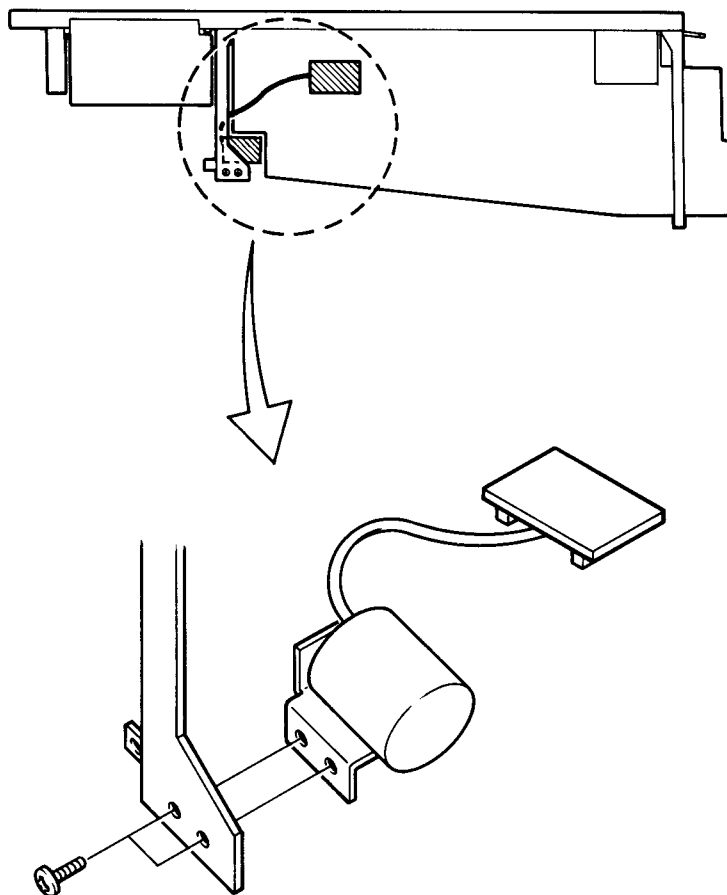

FIGURE 6-6. OPTIONAL INPUT TRANSFORMER INSTALLATION. (IT1800A)
The PM1800A standard input module is equipped with a balanced, differential input preamplifier for the XLR connector. That preamp, along with some circuitry for the resistive attenuation pads, is located on a small printed circuit board that “piggy back” mounts to the module’s main circuit board. Refer to Figure 6-6.
6. Install the transformer by securing its bracket to the lower left edge of the module frame with the screw provided. Dress the cable that joins the transformer and its circuit board neatly. You may wish to tie it to the board so that after the module is reinstalled, the cable does not become pinched between modules or between the module and mainframe. Refer to Figure 6-6.